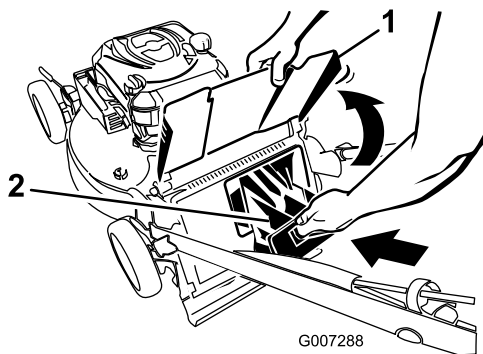

Figure 30
4. Install the rear discharge plug (Figure 30).